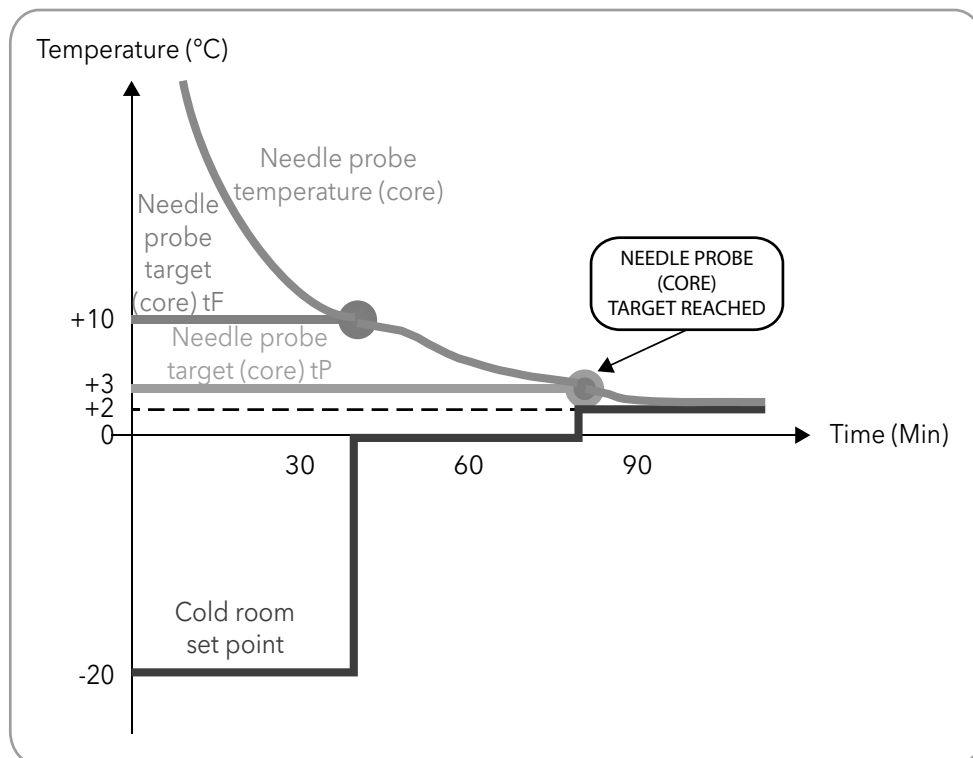

Fig. 11. Positive program with hard blast chill mode
- positive (cooling), with positive reference temperature (target temperature), and hard blast chill mode (**Fig. 11 on page 65**);
The numeric values shown in **Fig. 11 on page 65** are the default values.